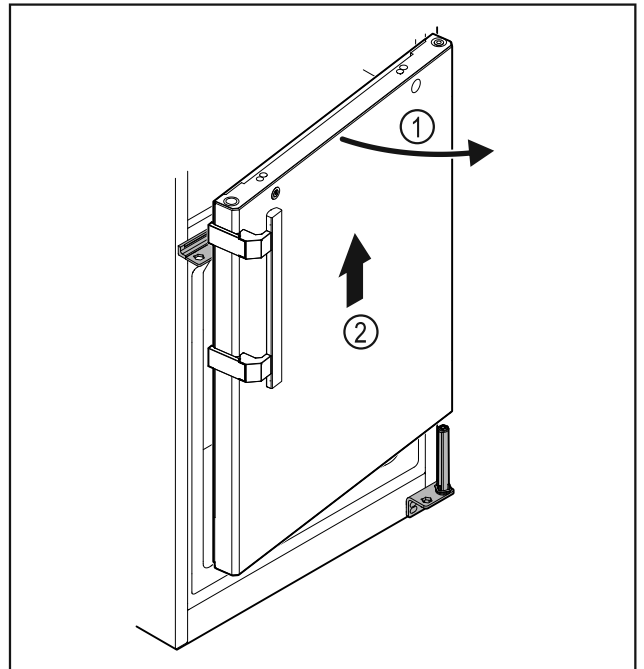

Fig. 34
- Open the door Fig. 34 (1) slightly, lift it straight up by around 200 mm and take it off Fig. 34 (2).